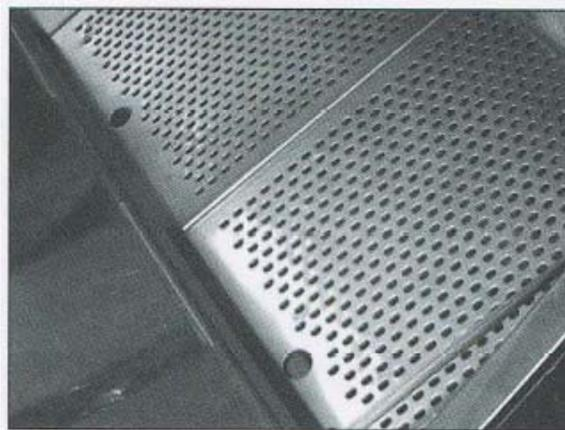

FIGURE 1
4. Remove the two bottom chip covers from inside the cabinet. (see figure 1.)